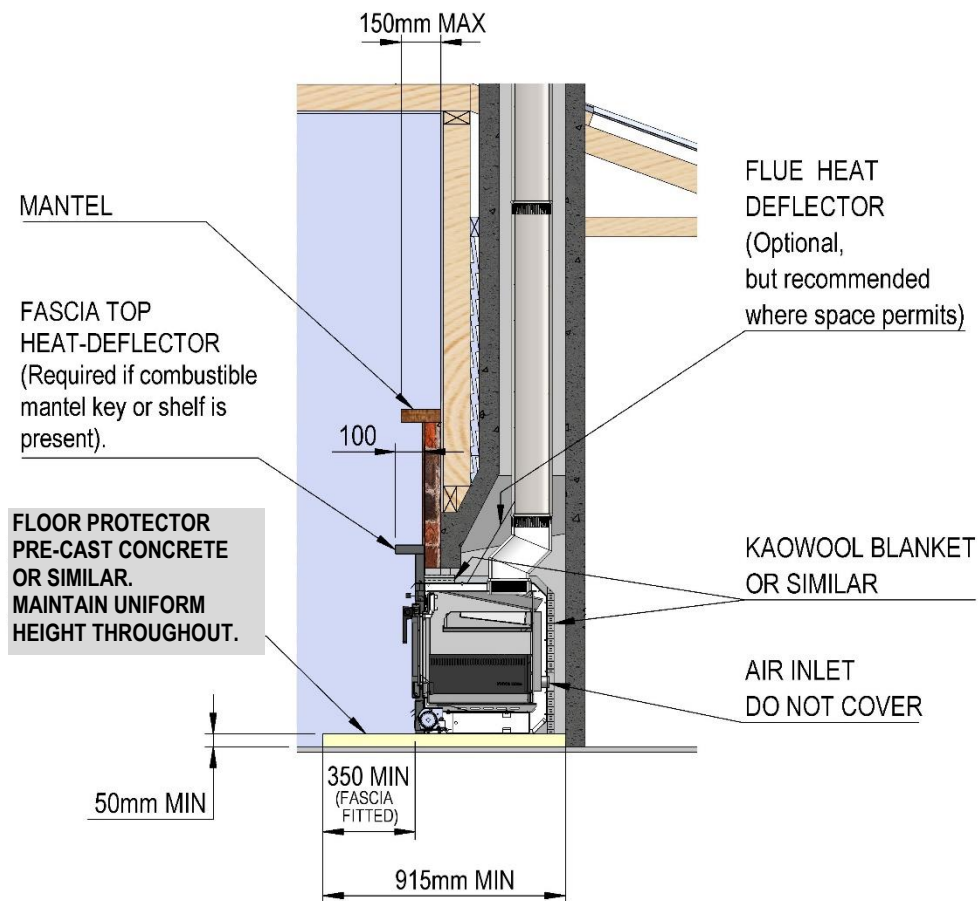

Fig. 6
- F1. Masonry installation must have a minimum of 1300mm from the underside of a combustible mantel shelf to the top of the appliance hearth. The mantel shelf must not protrude further than 150mm into the room. [This measurement is taken from the wall. Refer fig.6]
N1. The floor protector extension from the unit (Fig. 6) can be reduced if the unit is elevated. (Table 2) Measurements taken from the front of the fascia, which itself is 35mm thick for Original and 50mm thick for Allure version.